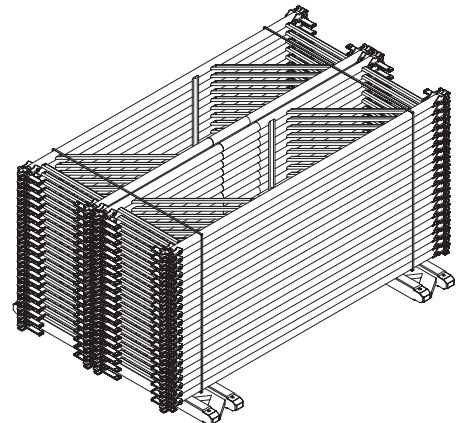

Fig. A8.04
- Frame MP MRK (**1**) with steel band. (Fig. A8.04)